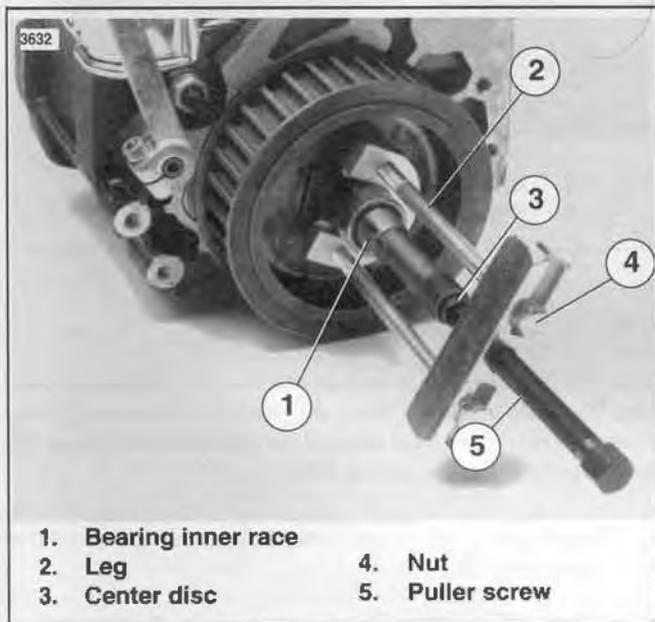

Figure 7-15. Pull Mainshaft Inner Bearing Race
4. See Figure 7-15. Remove the bearing inner race from the transmission mainshaft using BEARING RACE PULLER & INSTALLATION TOOL, Part No. HD-34902A.